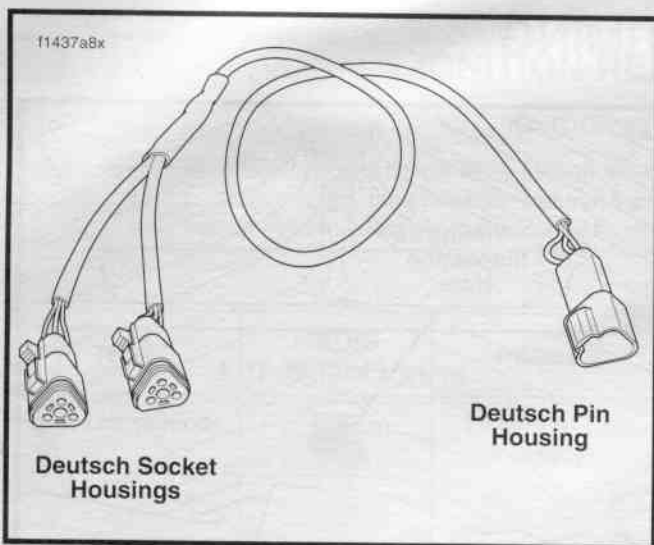

Figure 8-3. Test Harness
- a. Connect test harness (fabricated for use with the Speedometer Tester) between pin and socket halves of Cam position sensor connector [14]. See Figure 8-3.
12. If not already performed under Vehicle Attitude Sensor Test, move to right side of vehicle and connect test harness (fabricated for use with the Speedometer Tester) between pin and socket halves of Cam position sensor connector [14]. See Figure 8-3. Using black pin probes and patch cords from Harness Connector Test Kit (HD-41404), connect voltmeter between GN (+) and BK/W (-) wires on remaining 3-way socket of test harness.